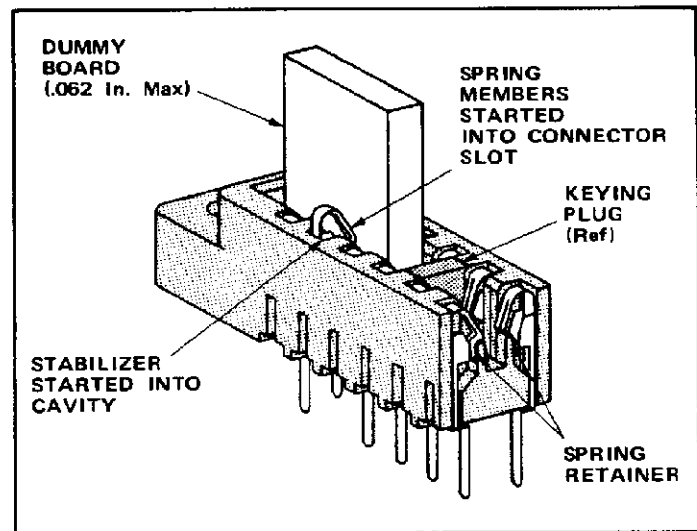

FIGURE 3
3. Guide the contact tail into the contact cavity (and if applicable, through the hole in pc board) until the stabilizer **STARTS** entry, into the connector as indicated in Figure 3. Do NOT fully insert the contact at this point as damage to the spring members could result.
4. Select an .062 in. thick dummy board that is wide enough to cover at least three (3) contact positions. The dummy board must NOT interfere with keying plugs – if necessary – make a cut-out in the board. Do NOT remove any keying plugs.
7. Remove the dummy board and check to be sure both spring members are seated behind the spring retainer as shown in Figure 3. If NOT, remove and discard the contact. Then replace it with a new one. Do NOT attempt to reset deformed locking lance or spring members.